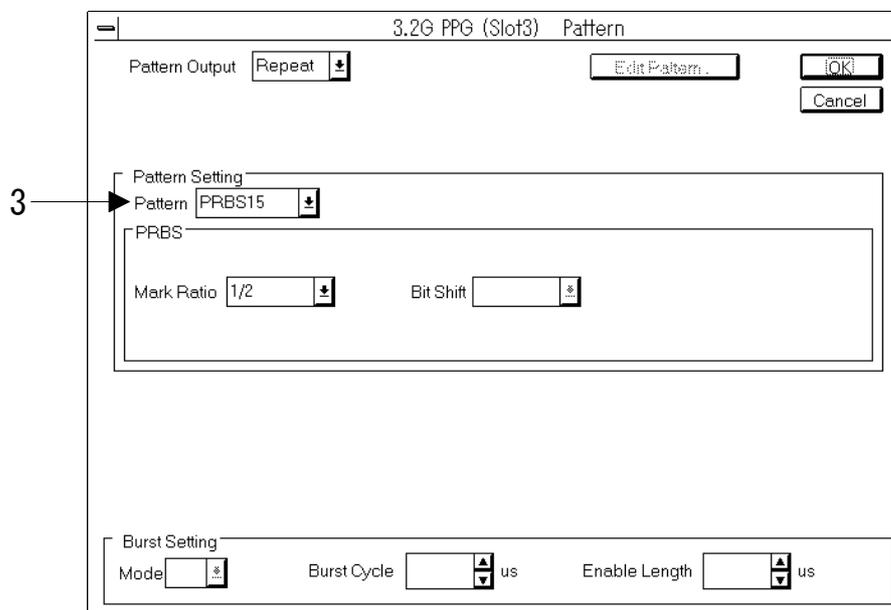

Fig. 5-2 Pattern dialog box
- To set the send pattern, press the Setup button in the PPG group box. To set the receive pattern, press the Setup button in the ED group box. The Pattern dialog box will be opened. Fig. 5-2 shows the Pattern dialog box for the PPG unit, and it for the unit has the same configuration as far as the settings explained in this section are concerned. We continue our explanation, presenting the case of the PPG unit.